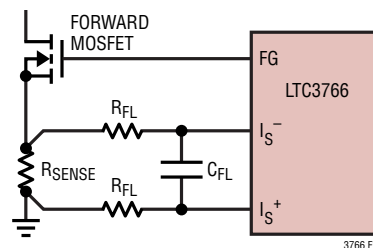

Figure 11. Using a Current Sense Resistor
When using a current sense resistor, the I_S^+ and I_S^- pins operate differentially and the maximum peak current threshold is approximately 75mV. Normally, the current sense resistor is placed in the source of the forward MOSFET, as shown in Figure 11. Depending on PCB layout and the shielding of the traces going to the I_S^+ and I_S^- pins, it is sometimes necessary to add a small amount of filtering as shown in Figure 11. Typically, values of $R_{FL} = 100\Omega$ and $C_{FL} = 200pF$ to $1nF$ will provide adequate filtering of noise pickup without substantially affecting the current loop response.
1. The accuracy of the current sense resistor and/or current sense transformer. For resistor sensing, the accuracy of the current sense resistor is normally 1%. For sense resistors less than 2mΩ, however, the parasitic inductance can cause a significant error in the sensed current. This error can be eliminated by adding an RC filter as shown in Figure 11.